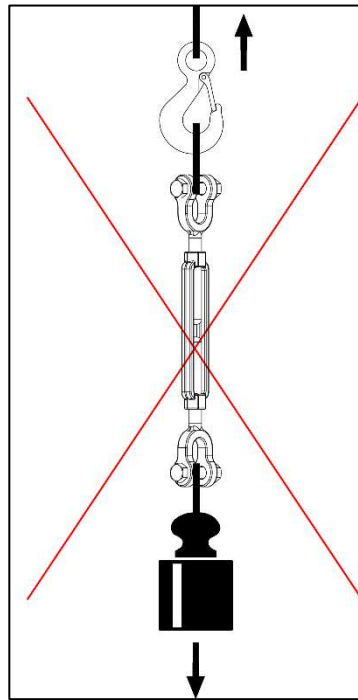

Fig.4
The turnbuckle can also be used for lifting operations, if it is not a single pull (par.10 fig.4). In these conditions, in fact, the load can rotate freely, generating the risk that the terminals will unscrew until escape from the turnbuckles, with consequent fall of the load.
- DO NOT use the single pull lifting accessory (Fig.4);